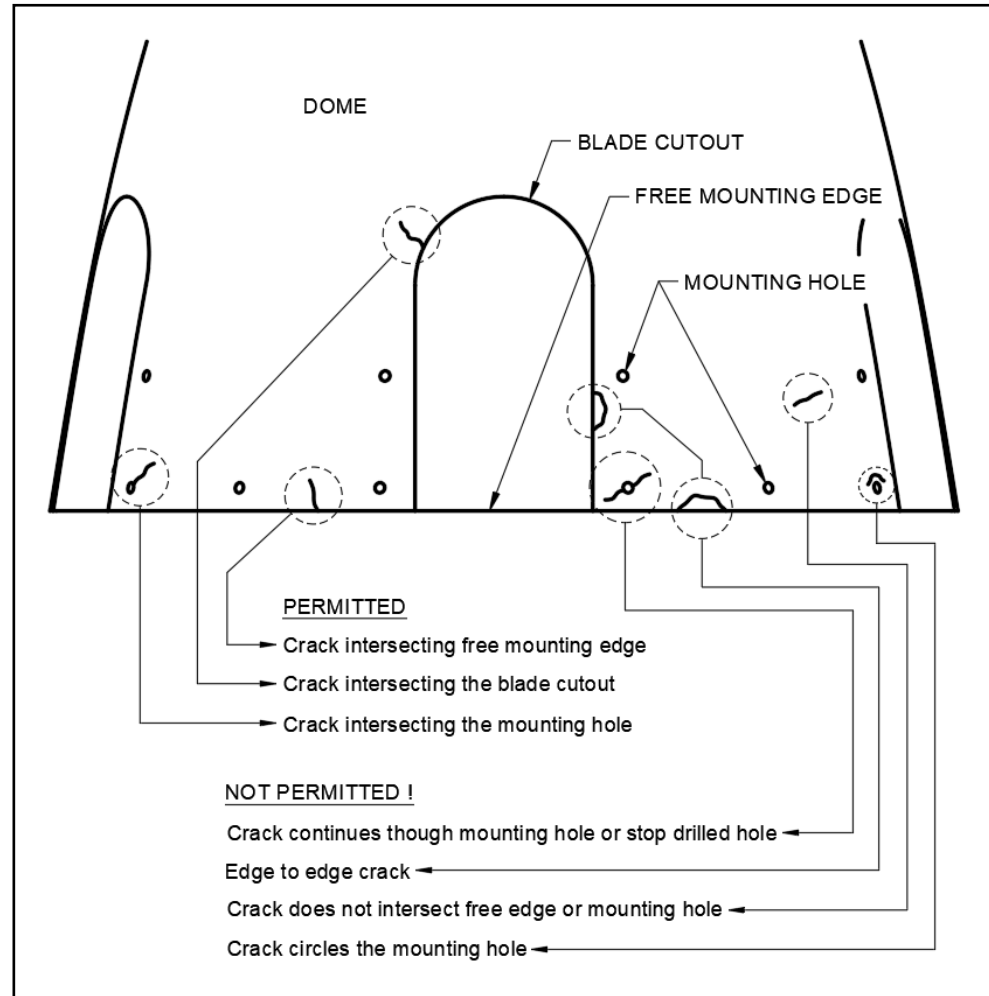

Figure 6-5 Metal Spinner Dome
Inspect the dome and bulkhead for wear, dents, pitting and the cracks. See figure 6-5.
- 1 A total maximum of two cracks are permitted to the dome (see figure 6-5).
- 4 The following cracks are not permitted (see figure 6-5):